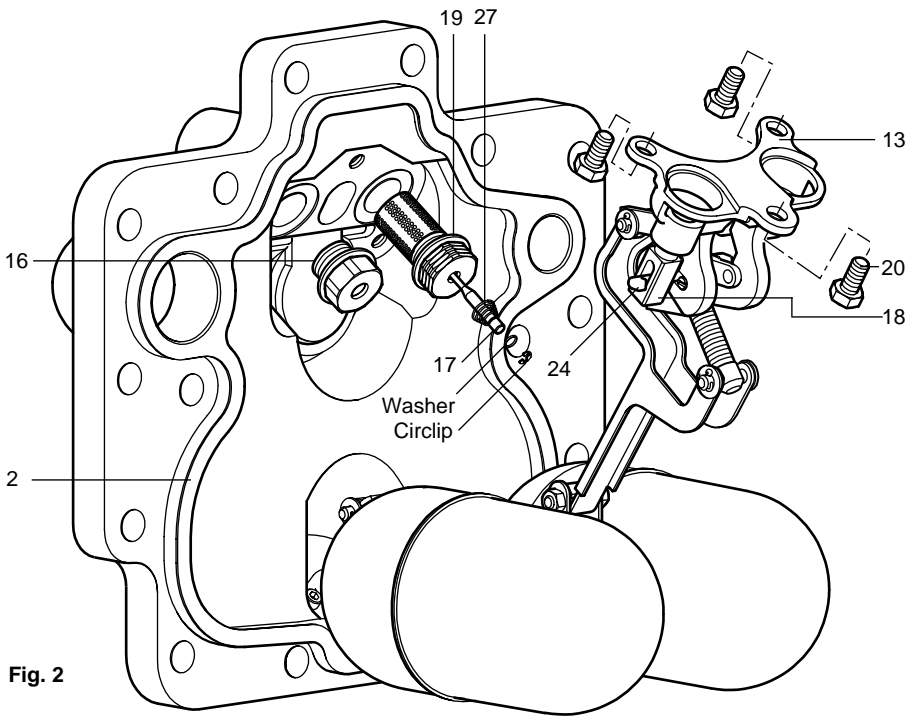
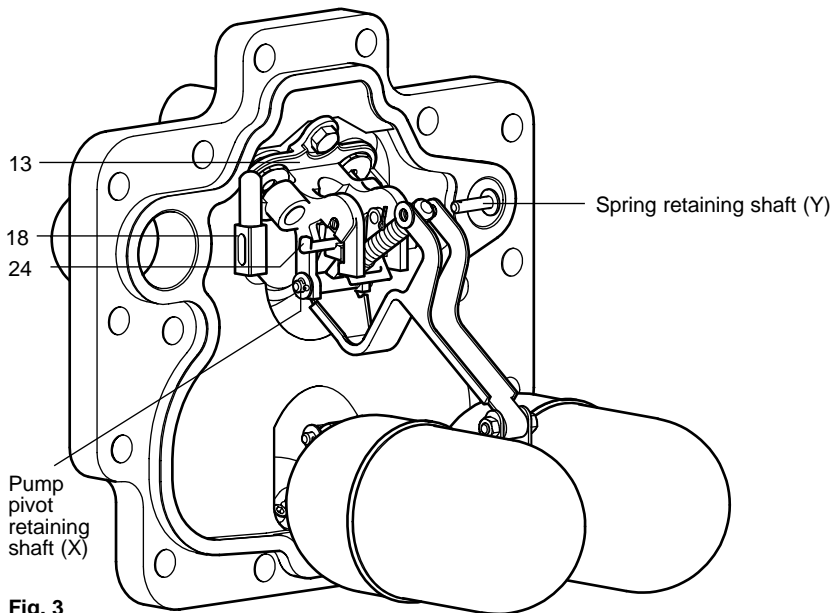

Fig. 2
Fig. 3
3. Carefully remove the circlip, washer and the inlet valve spring (item 27) from the end of the steam inlet valve (item 17).
4. Remove the three M8 bolts (items 20) using the 13 mm A/F socket.
9. Insert the replacement steam valve assembly (items 16 and 17) according to Fig. 2.
10. Place a new metal gasket (item 19) onto the threads of the seat before tightening into the cover.
15. To remove the exhaust valve (item 18), remove split pins, washers, and shafts (X and Y) from the top spring pivot point and pump pivot point (See Fig. 3).
17. Draw the actuator arm downwards within its slots until the whole spring and actuator arm assembly with the exhaust valve comes free. It may be necessary to slide the exhaust valve backwards against its internal spring to free it from the pump bracket guide (item 13).
18. Align the slot in the exhaust valve (item 18) with the tang of the actuator arm (item 24) (See Fig. 3).